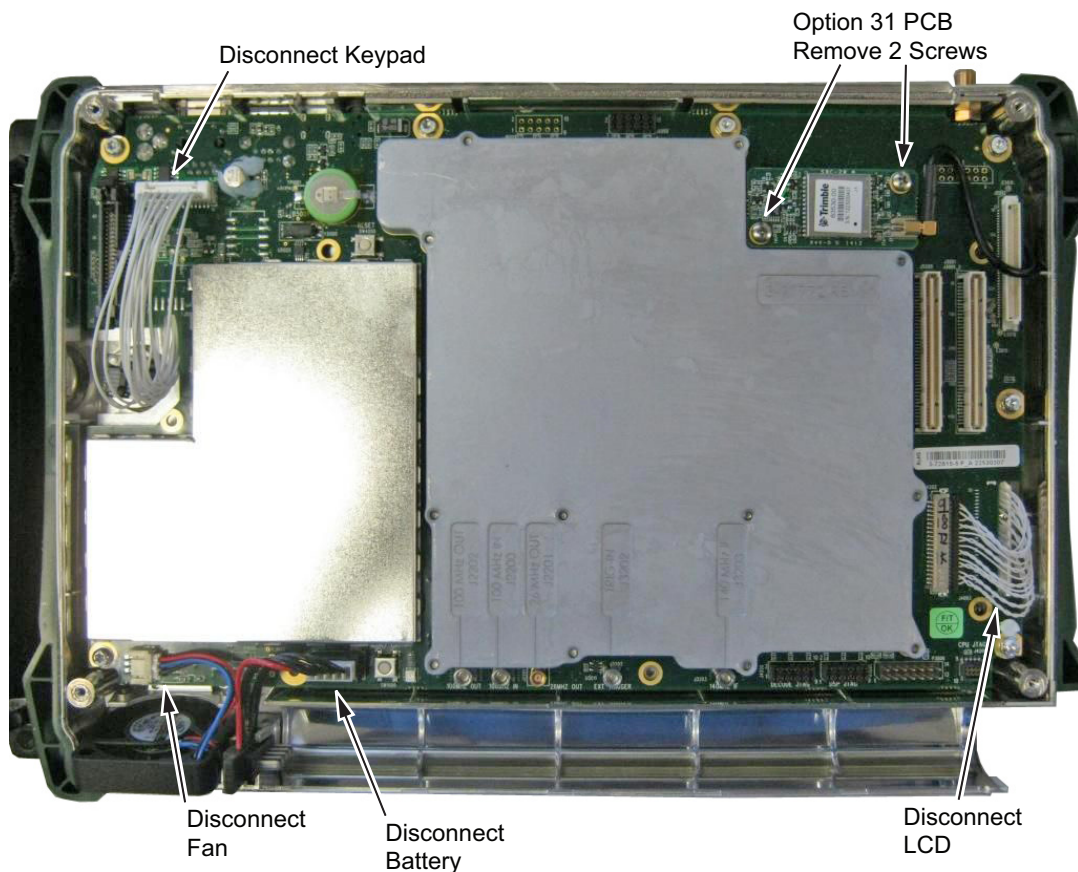

Figure 5-7. Disconnect the Cable Connectors on the Main PCB Assembly
3. Disconnect the Fan connector on the Main PCB Assembly (Figure 5-7).